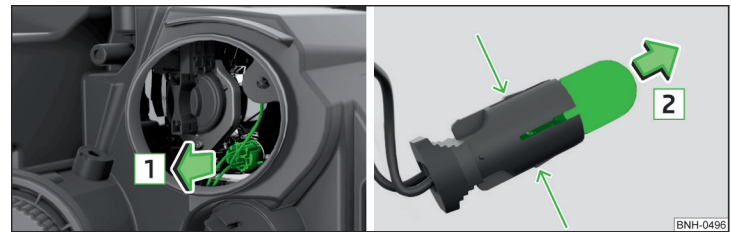

Fig. 156 Change the light bulb for the parking light
- Remove the bulb holder with the bulb by jiggling it out in the direction of the arrow **1** » Fig. 156.